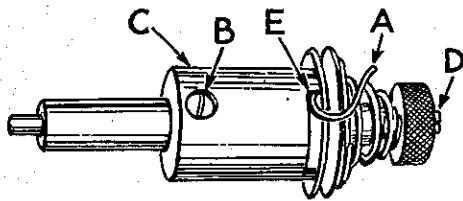
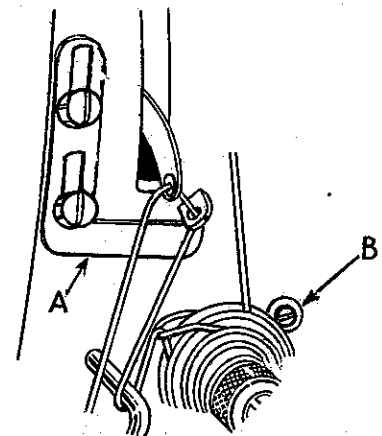
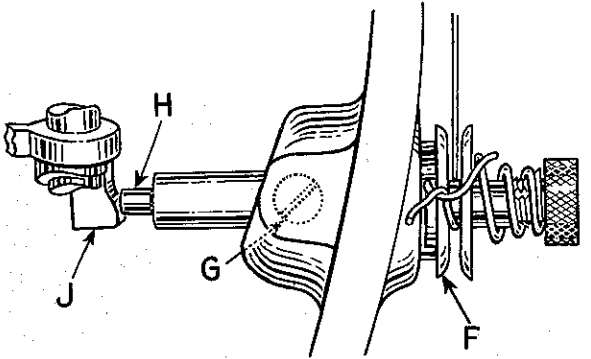

Fig. 10
Fig. 11
Fig. 12
Test check spring tension (A, Fig. 10). There should be enough tension to insure a good returning snap when spring is depressed and released. Should it require adjusting, loosen set screw in the head on right side of tension post (G, Fig. 12) and remove tension post assembly. Partially loosen tension post set screw (B, Fig. 10) in tension post socket (C). Holding the socket in the left hand, turn the tension post (D) counterclockwise with the right hand until
The frame take-up eyelet (A, Fig. 11) should be set at its highest position.
The tension assembly should be located in bed from front to back, so that when the presser foot is raised to its highest position, the tension discs (F, Fig. 12) are opened just enough to allow the thread to pass through the discs freely.
To position the tension assembly, see that set screw in bed (G, Fig. 12) is loose and tension assembly adjusting screw (B, Fig. 11) is screwed down to the bed.
Lift the presser foot hand lifter to its highest position. With the left hand, grasp the thread and pull it through the tensions, with the right hand, push tension post deeper into the machine until release pin (H, Fig. 12) pressing against the presser bar connection (J) has opened the tension discs just enough to allow the thread to pull through freely.
Re-tighten set screw (G), turn tension assembly adjusting screw (B, Fig. 11) counterclockwise until it contacts the flange of the tension post socket.